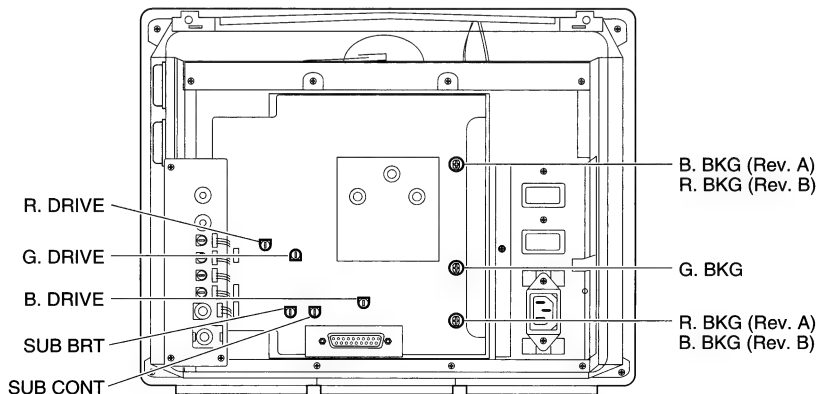

Figure 7 White Balance Controls
3. FIGURE 7. Alternately adjust the B.BKG, G.BKG, and R.BKG controls so that:
4. FIGURE 7. Adjust the G.DRIVE control until the center of bar 8 (the brightest bar) measures at the mid "9" scale of the light meter.
5. FIGURE 7. Now adjust the R.DRIVE and B.DRIVE controls until there is no predominant color in the test pattern. Repeat steps 4 and 5 as necessary.
6. FIGURE 7. Adjust the SUB CONT control so that the brightness at the center of bar 8 measures at mid "9" on the light meter.
7. FIGURE 7. Adjust the SUB BRT control so that bar 1 is completely black and bar 2 is barely visible.